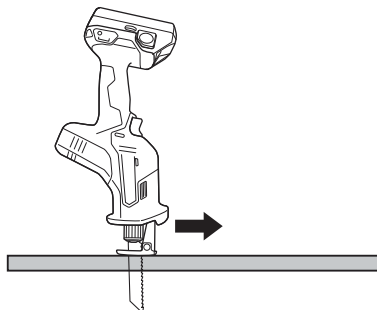

Fig. 26
- (3) Pull the switch all the way and slowly advance the saw. (Fig. 26).